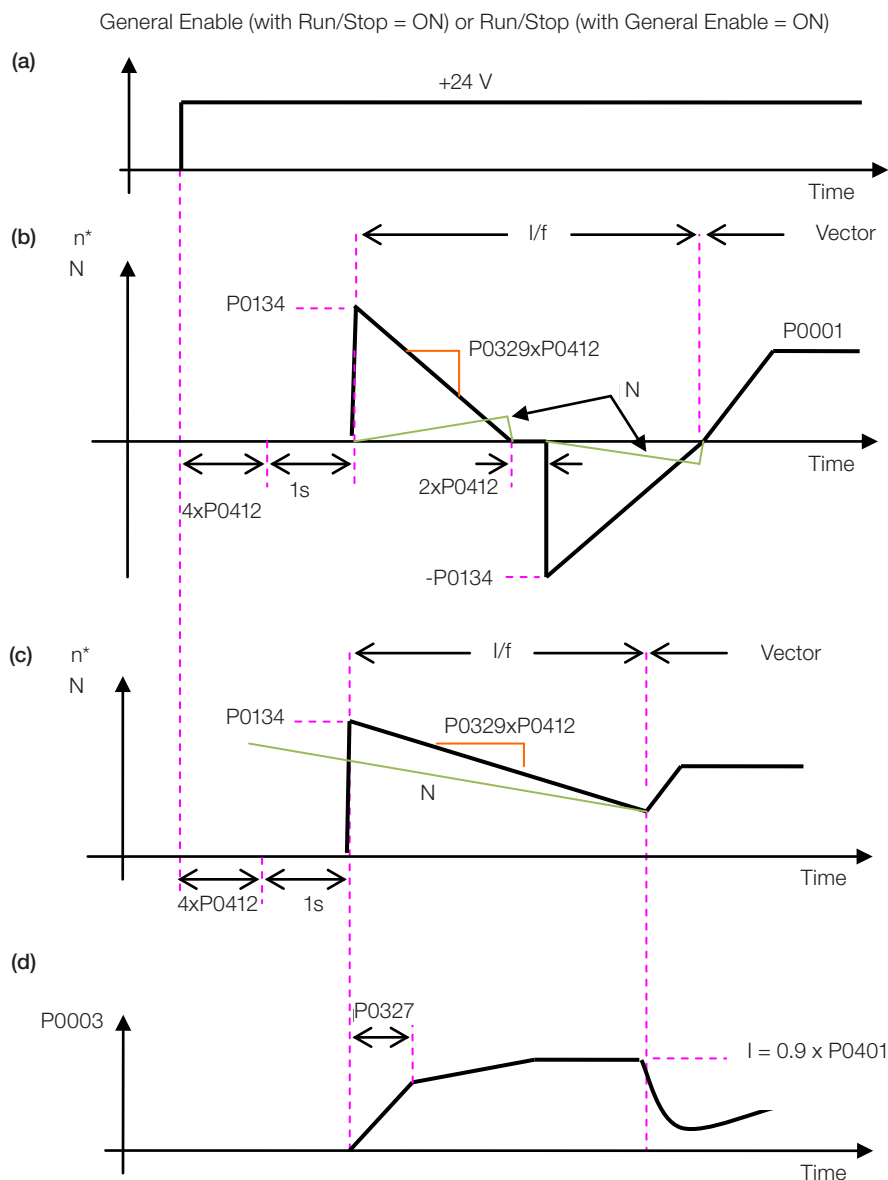

Figure 14.3: (a) to (d) Influence of P0327 and P0329 during Flying Start (P0202 = 4)
The behavior of the Flying Start function (FS) in the sensorless mode during acceleration and reacceleration can be understood from the Figure 14.3 on page 14-8.
The Figure 14.3 on page 14-8 shows the behavior of the speed reference when the FS function is started with stopped motor shaft and small P0329 value (not optimized).
The Figure 14.3 on page 14-8 shows the speed reference when the FS function is initiated with the motor shaft already running in the desired direction, or with stopped shaft and an already optimized P0329.